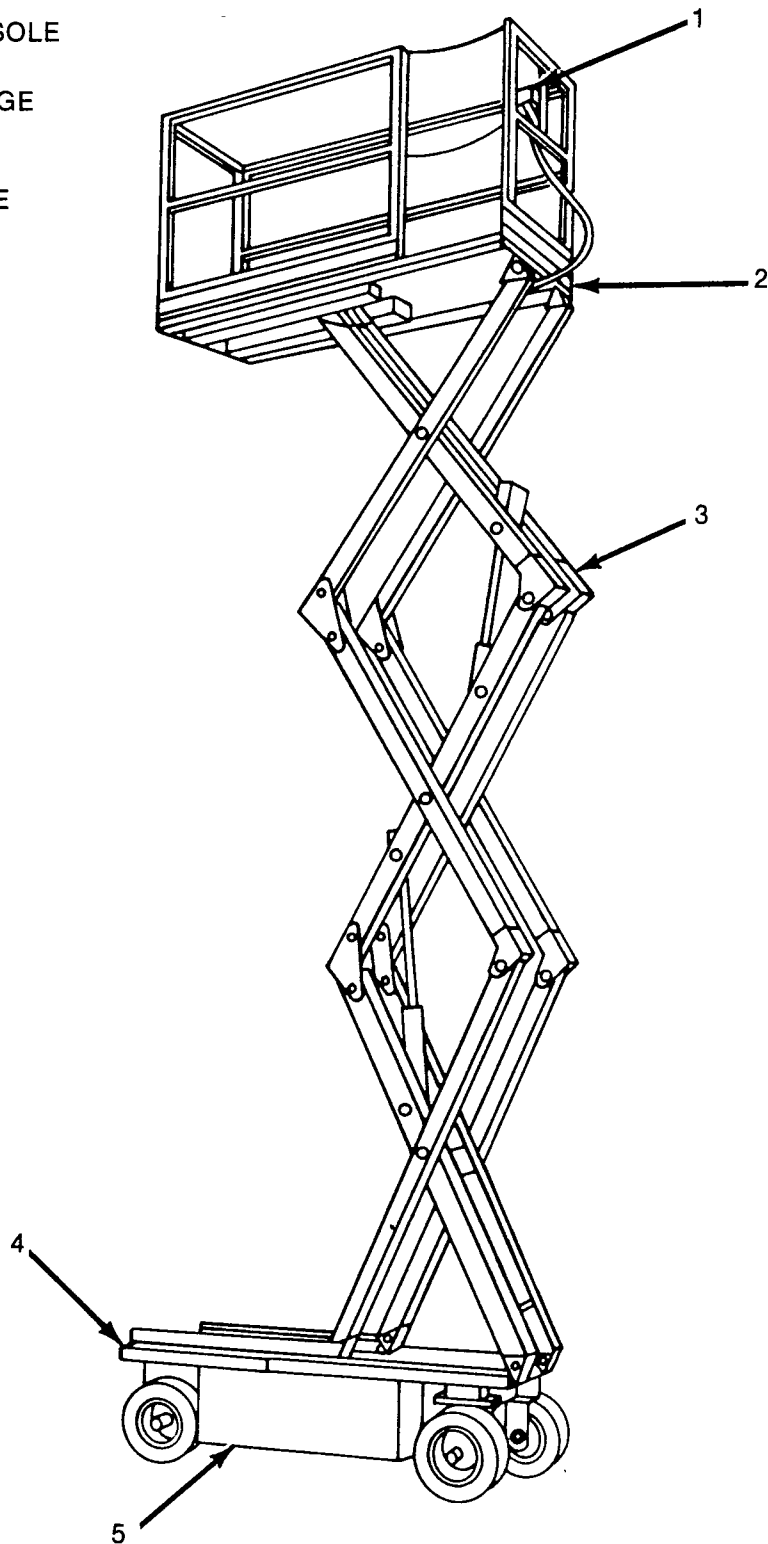
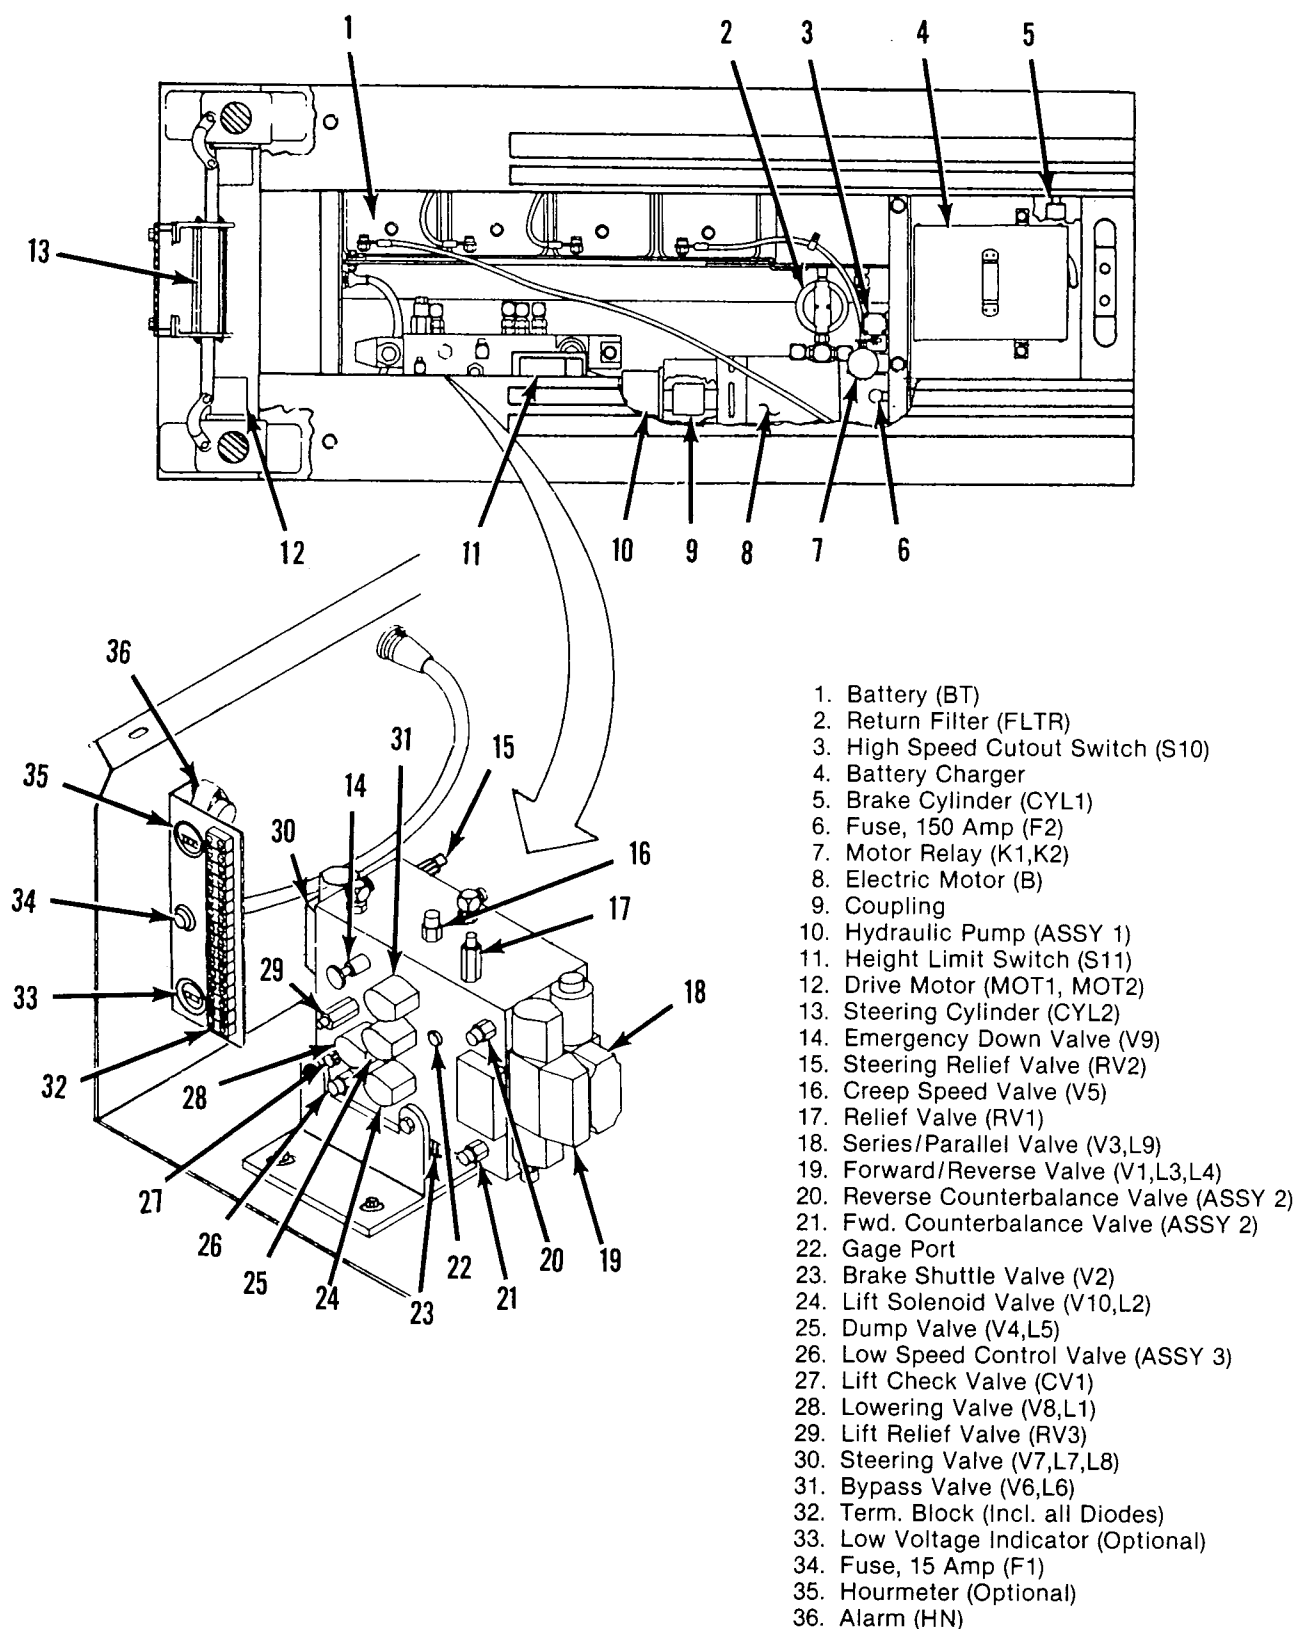

Figure 5-1. Location of Components
Figure 5-2. Location of Components, Chassis
5.2 **LOCATION OF COMPONENTS.** Figure 5-1 shows components on complete unit. Figure 5-2 shows components mounted directly to chassis and located in the control valve.